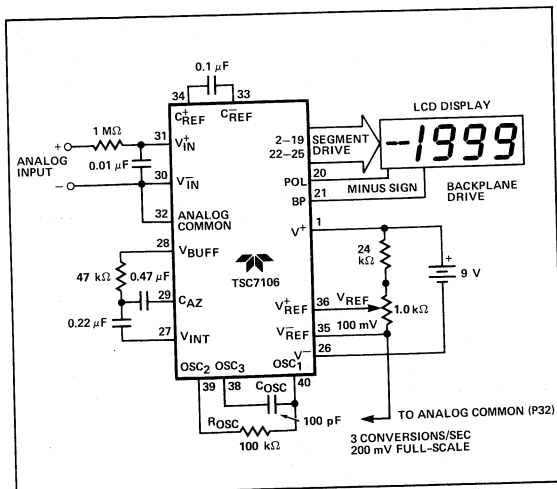
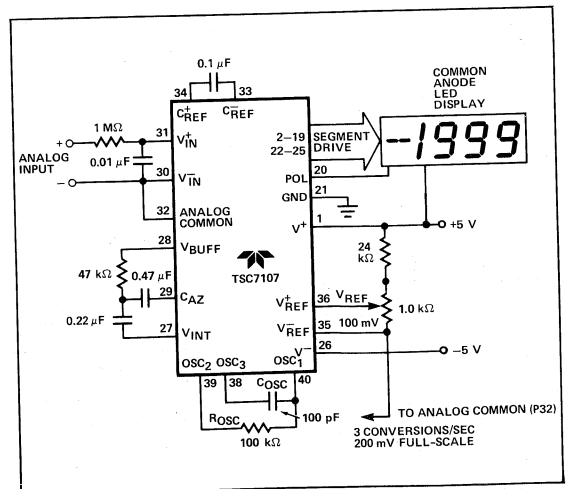

Figure 1: Typical TSC7106 Operating Circuit
Figure 2: Typical TSC7107 Operating Circuit
- Figure 1. TSC7107 is tested in the circuit of Figure 2.